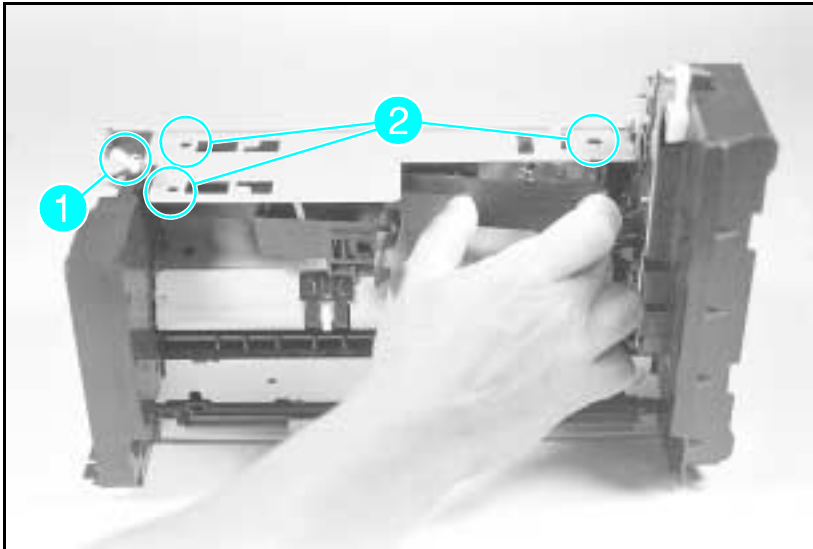

Figure 6-51 **Removing the PS1/PS2 Sensor Assembly**
- 5 Flex the right side of the Sensor Assembly to clear the locator pin and the sensor arm from the sheet metal (see Figure 6-51 callout 2).
- 6 As you flex the right side of the assembly, carefully release the (2) plastic retaining tabs on the left (Figure 6-51 callout 2).